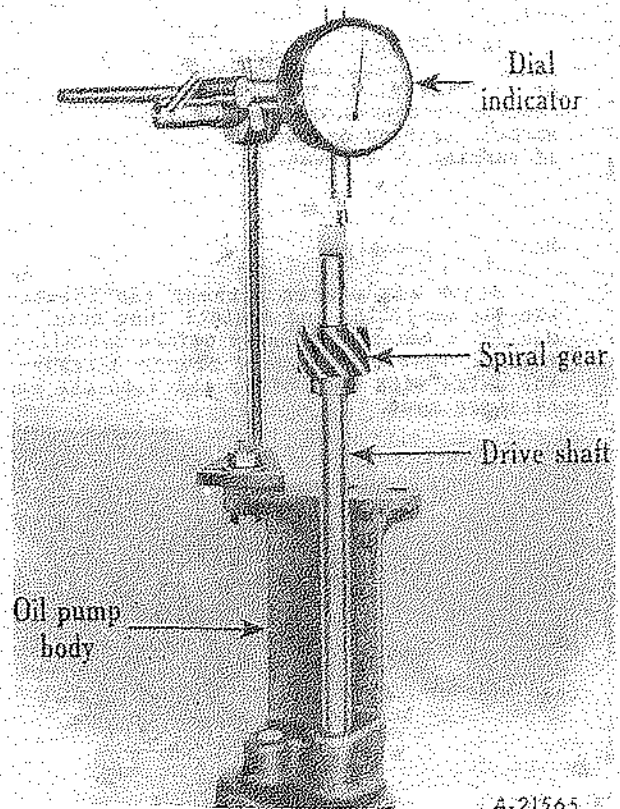

Fig. 37 - Checking and clearance of pump shaft and body gear
6. Check oil pump body gear end clearance by using a dial indicator (Fig. 37). If end clearance is less than .0025" add one gasket that measures not more than .003" in thickness. If end clearance is in excess of